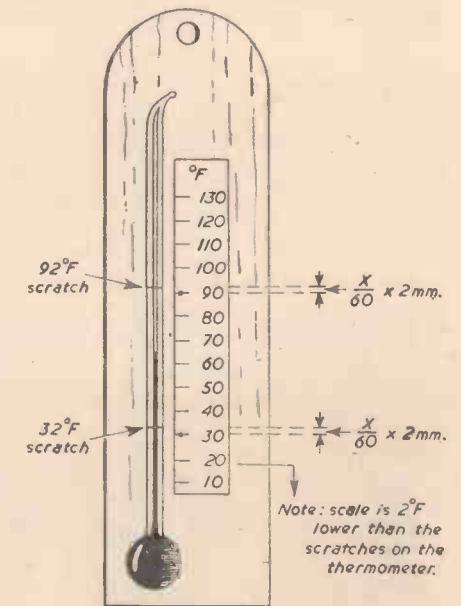

Fig. 16.—The scale attached to the thermometer stand.
6. Now cut out the scale and stick it to the thermometer base so that the 30 deg. mark is exactly the deviation distance below the 32 deg. scratch mark on the thermometer (see Fig. 16).